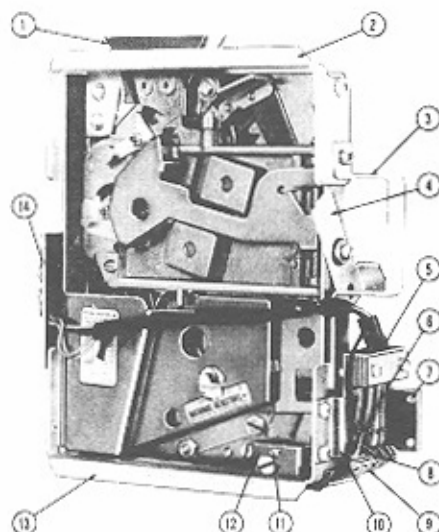
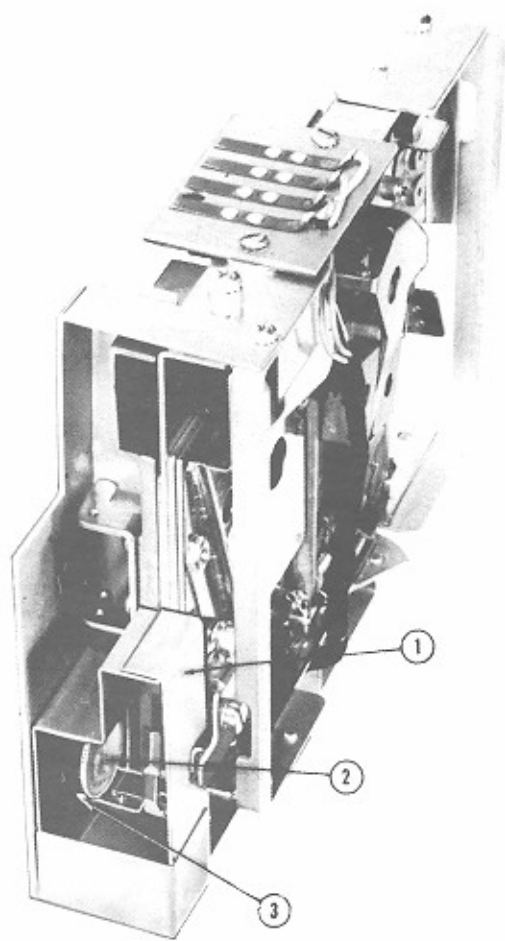

Fig. 6. SLUG REJECTOR ASSEMBLY 5-10-25¢
Fig. 11. SLUG REJECTOR, 5-10-25¢ - ADJUSTMENTS
(1) The slug rejectors for the Model 2000 are products of National Rejectors, Inc. of St. Louis, Missouri. For service and parts other than those shown as Wurlitzer assemblies in Figures 6 and 7, it is recommended that the services rendered by National Rejectors, Inc., and their branch offices, be employed.
(2) The coin hopper, top bracket, bottom bracket, locking bar, handle, coin switch, contact plate, switch guard (not shown), and lower bracket assembly (Fig. 6) are components of the 5-10-25¢ slug rejector which have been added on Wurlitzer's assembly lines.
(4) The Model 2000 slug rejectors and the coin register mechanism is set at the factory to deliver one play for a dime or two nickels, three plays for a quarter, and seven plays for a half dollar. In cases where it is desired to deliver one play for a nickel, the 5-10-25¢ slug rejector (Fig. 6) may be adjusted to stop the nickel "flipper" action with the No. 4 screw in the flipper bracket.
(1) The mechanical adjustments of the slug rejectors should be made in accordance with "Rejector Manual" furnished by National Rejectors, Inc.
(2) Coin switch adjustment on the 5-10-25¢ slug rejector (see Fig. 6) should be accomplished by setting the blades of the switches and the switch actuators to provide about 1/32" opening of the contacts when the paddle end of the actuator is held against the coin exit by outward tension of the movable contact blade. The object is to maintain point contact during the entire time that the coin is passing the coin switch actuator. Care should be exercised to avoid any delay of the coin, especially in the case of the quarter. As shown in Figure 11 a thin quarter should, after being stopped at the coin paddle by blocking its way, pass slowly thru the critical point shown in Figure 11 by its own weight. There should be no current flowing in the coin circuits when these tests are made. A pulse longer than three seconds may blow the average 0.8 Amp fuse which protects the coin magnets.